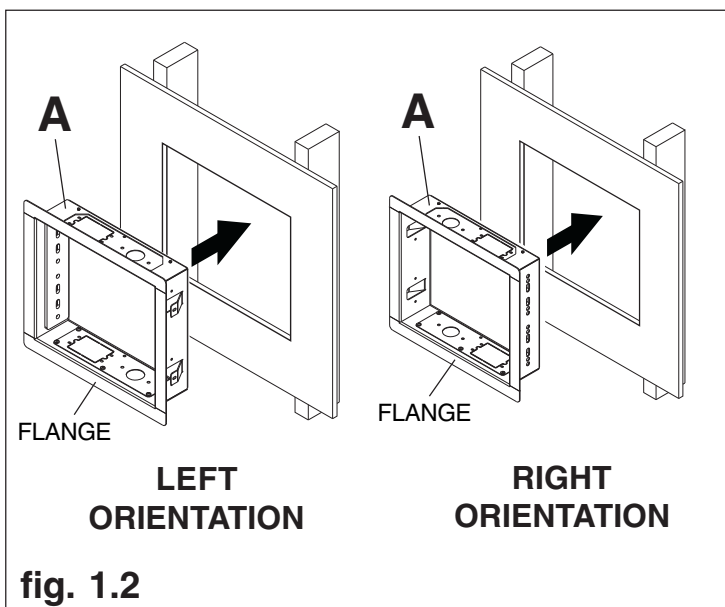

fig. 1.2
**1** In-wall box (A) can be installed between two studs 16" off center. Use a stud finder to locate the edges of the stud. Use of an edge-to-edge stud finder is highly recommended. Based on its edges, draw two vertical lines down the inside edges of stud's. Mark desired center of in-wall box. Draw a horizontal line above desired center of in-wall box 6-1/8" (150 mm). Draw a second horizontal line 12-1/4" (311 mm) below this line to outline wall opening between inside edges of studs. Remove drywall inside cut outline.
**Note:** In-wall box can be flipped for left or right side mount orientation as shown in figure 1.2.